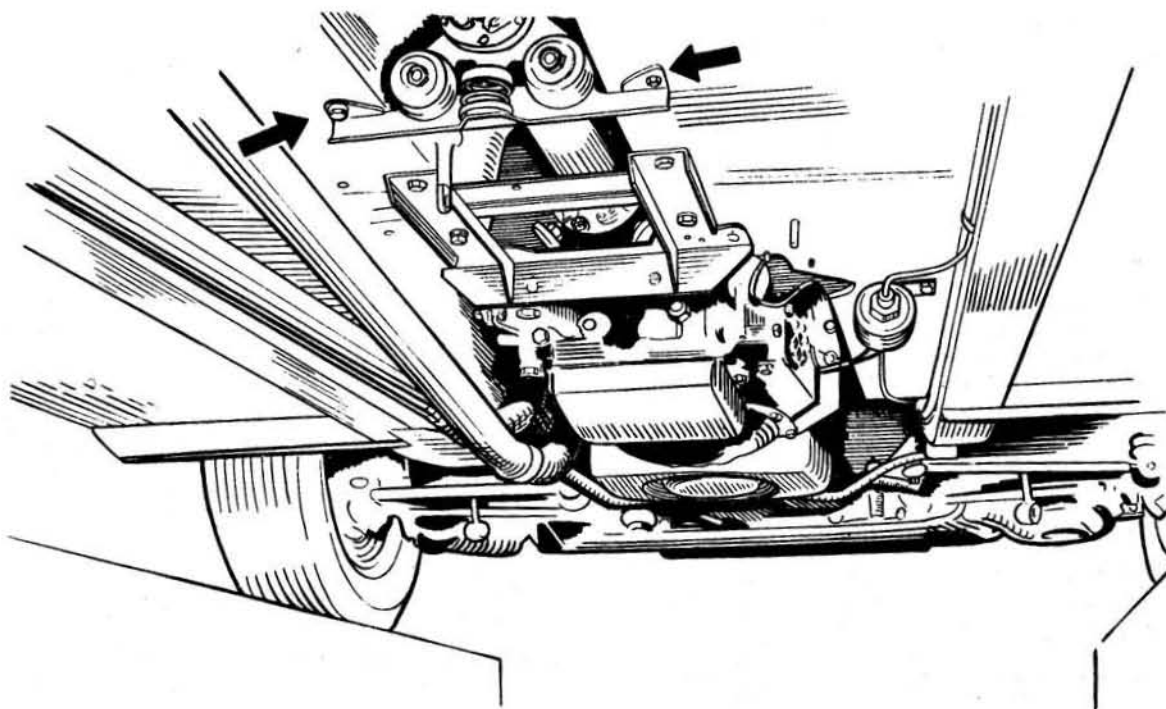

Fig. 7.9. Showing location of the adjusting shims
- 6 Misalignment can be corrected by adding or subtracting shims between the centre bearing bracket mounting and the body. (See Fig.7.9).